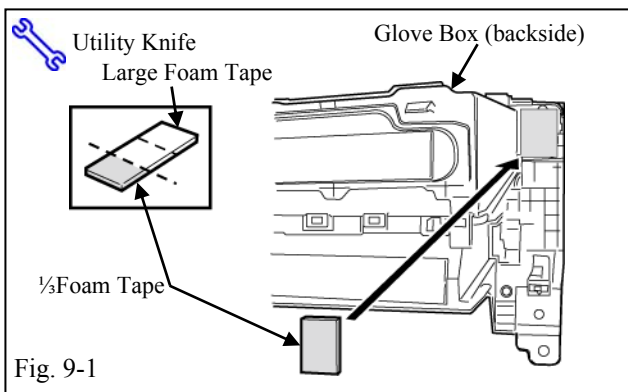

Fig. 9-1
- (a) Cut and apply 1/3 piece of Large Foam Tape to the backside of the Glove Box. (Fig. 9-1)
- (1) Verify the Panels fit together properly, with no uneven gaps.